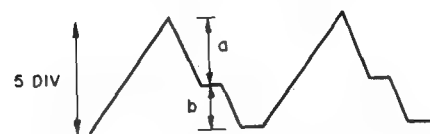

Fig. 11-4 Sawtooth wave adjustment
5. After the waveform shown in Fig. 11-4 appears on the oscilloscope, adjust the oscilloscope gain so the peak of the sawtooth waveform is at division 5. Then adjust VR1 (33 1/3 rpm) to a:b = 2.7:2.3 as shown in Fig. 11-4. (Be careful because noise enters easily.)
7. Connect an oscilloscope to pin ⑦ of PA2007 and check that the waveform is 55.5 Hz for 33 1/3 rpm and 75 Hz for 45 rpm.